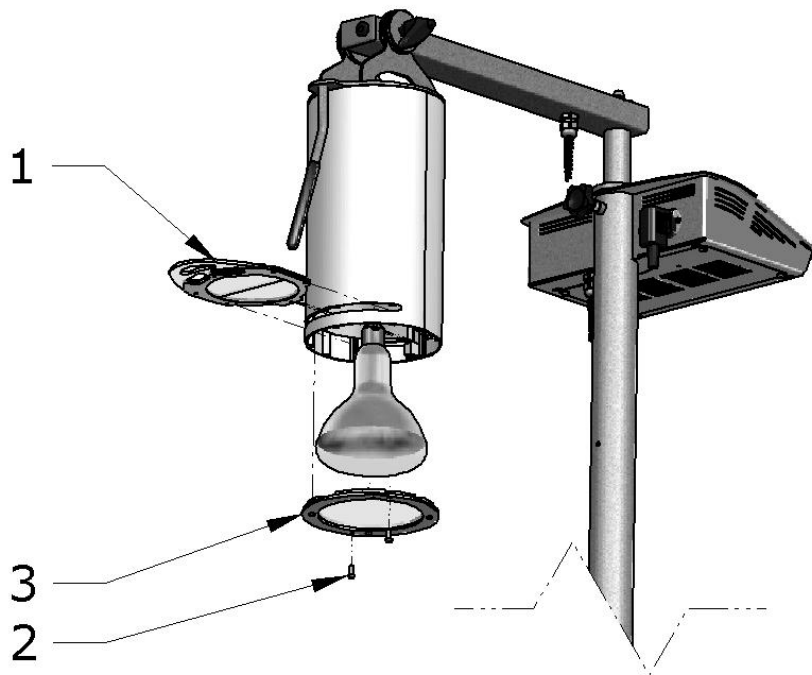

Figure 11 - How to change a light bulb
The lamp protection grid (fig. 11 item 3) protects the patient and staff from the hazards associated with a broken glass of the bulb or filter.
In order to insert or remove a light bulb, remove the filter (fig. 11 item 1), unscrew the two M5x12 screws from the front of the tube using a 3 size Allen key (fig. 11 item 2) and remove the front ring (fig. 11 item 3).